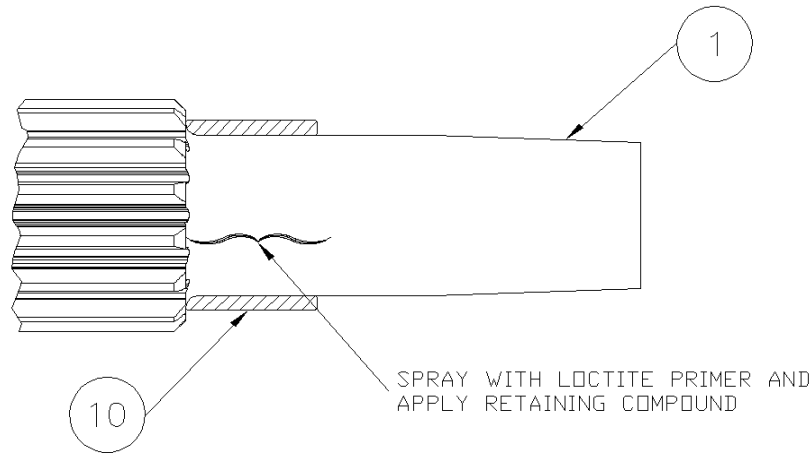

figure A-4
4. Thoroughly clean the pinion shaft (1) (fig. A-4) and inner races (10) with a mild solvent and dry completely. Spray the inner race contact area (shown in figure A-4) at each end of the pinion shaft and the inside diameter of the inner races thoroughly with *LOCTITE 7649 N PRIMER*. Apply *LOCTITE RETAINING COMPOUND 609* around the pinion shaft at contact area and the inside diameter of the inner races. Slide the inner races (10) on the pinion shaft (radius end first as shown in figure A-4) until the races seat against the gear teeth. After the races seat against the gear teeth, twist the races on the pinion 360° to spread the retaining compound evenly. Wipe off any excess retaining compound.